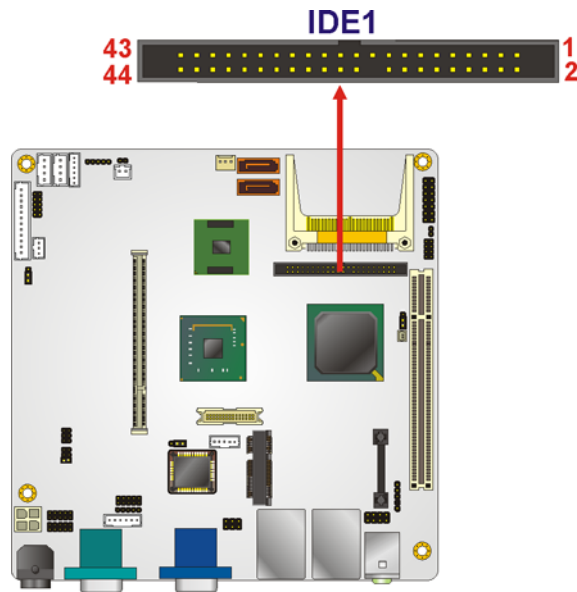

Figure 4-7: IDE Device Connector Locations
- CN Location:** See **Figure 4-7**